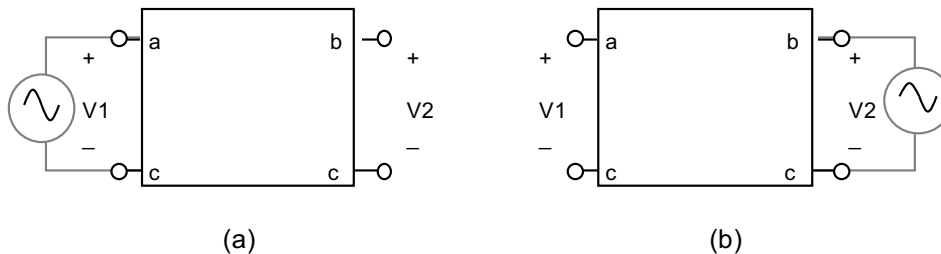

Fig. 2. Sinewave injection into: (a) port 1, and (b) port 2.
Inject a 1-V 1-kHz sinewave into port 1 (i.e., across terminals a and c) using the signal source, as shown in Fig. 2(a) (set signal source amplitude to 1 V and frequency to 1 kHz). Attach oscilloscope probes across both ports, and set amplitude of both channels to be 500 mV/division, and time scale to be 250  $\mu$ s/div. (Note: you can set up your signal drive and oscilloscope probes attached to a set of banana plugs, and then just move the plugs around, instead of disconnecting everything every time.)
- (c) Connect the signal source to port 2, as shown in Fig. 2(b), and repeat Tasks 3(a) and 3(b). Enter amplitude and phase shift information in the lab report, as well as a plot of port 1 and port 2 voltage waveforms, showing their relative amplitudes and phases (do this for 1 kHz and 100 kHz).